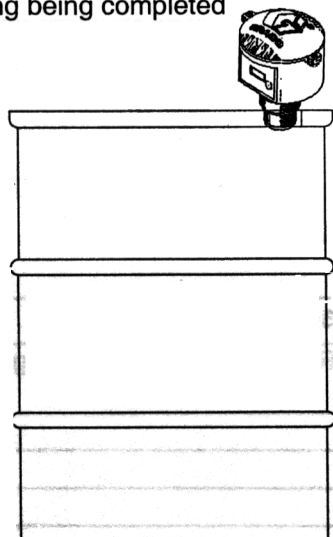

FIG. 1
- 1 Remove the bung or plug from the tank that the sensor will be installed on. See FIG. 1.